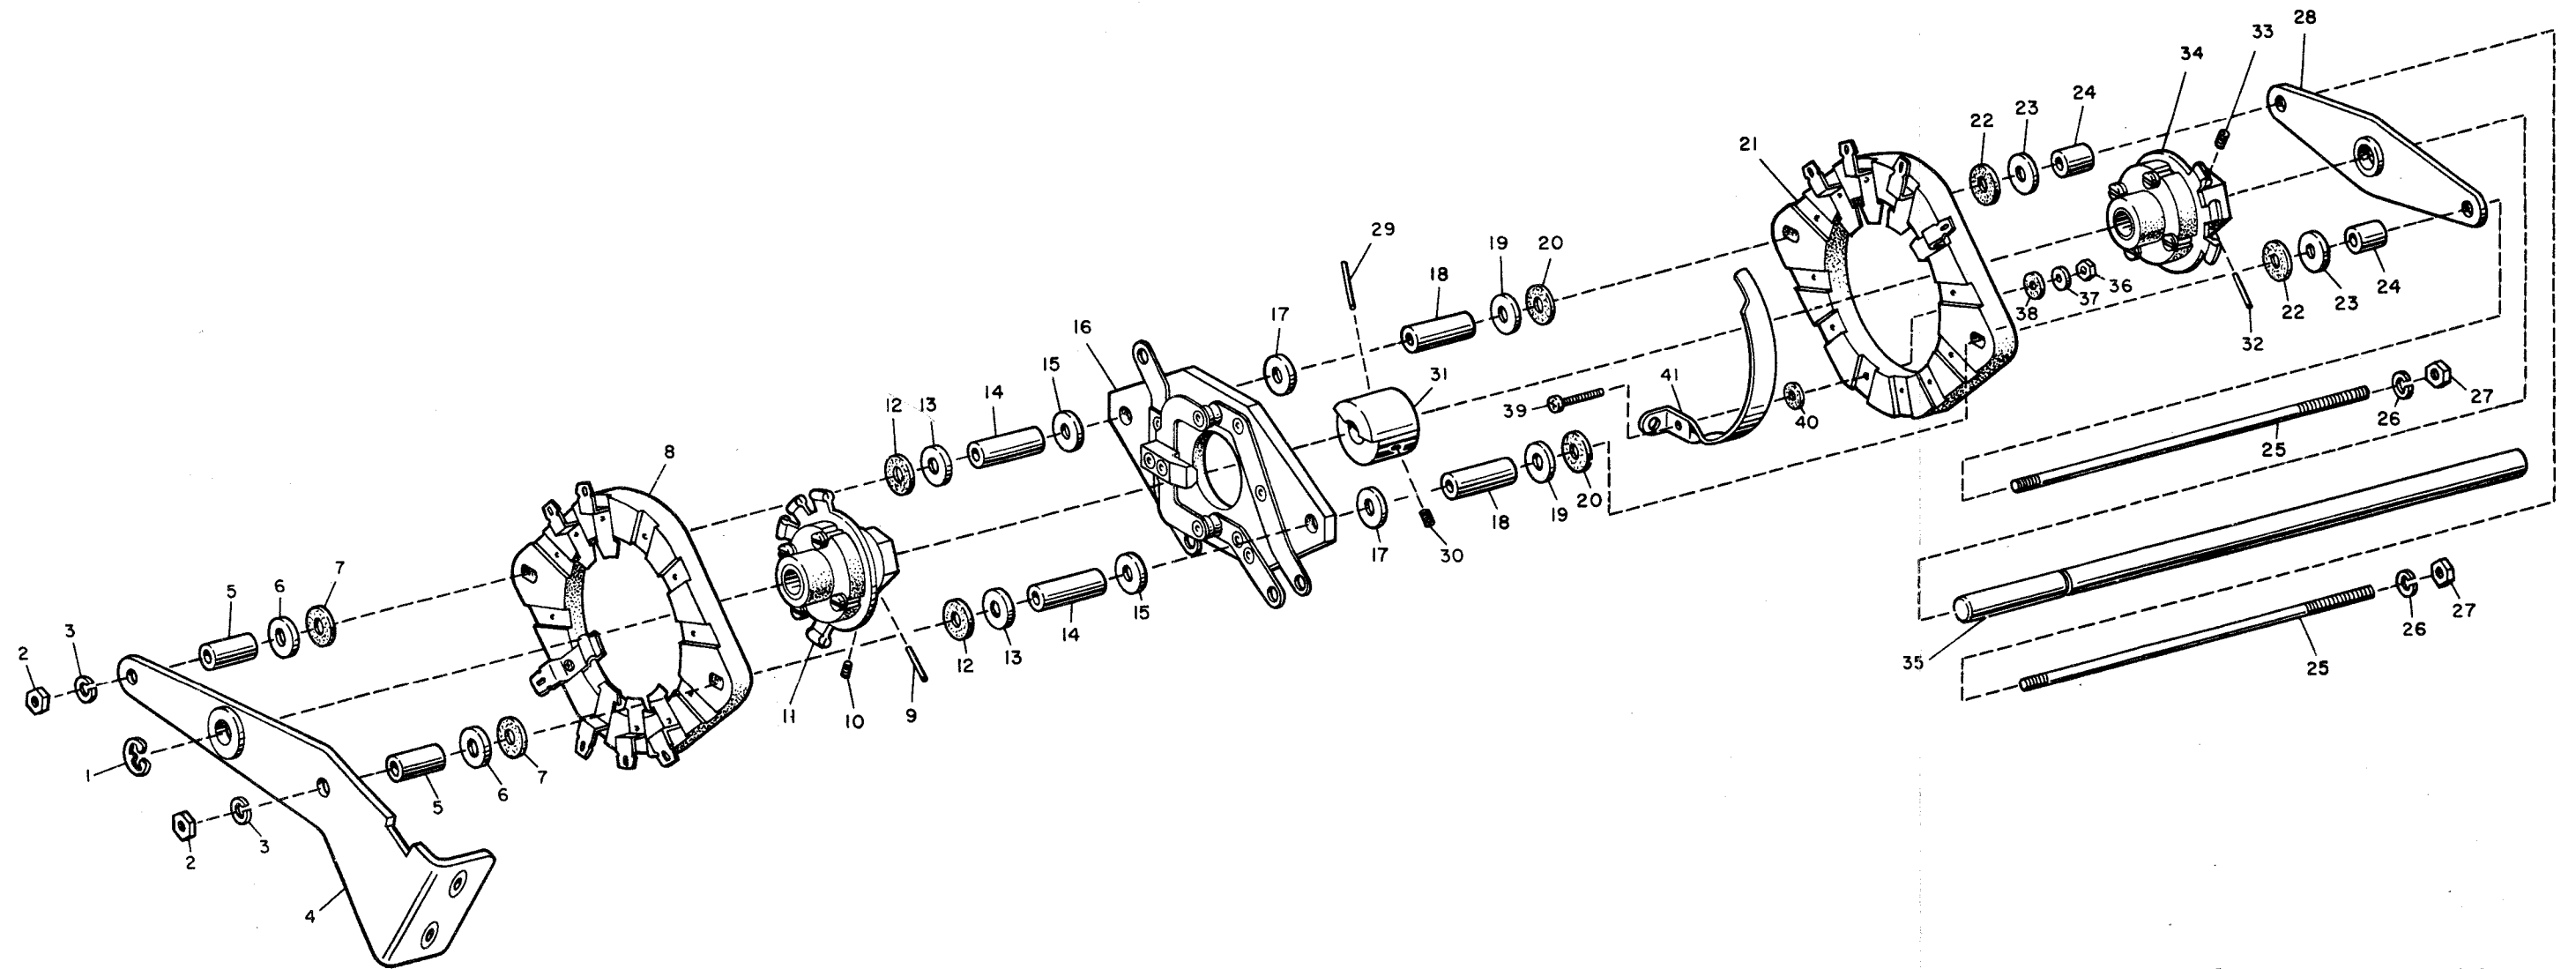

Figure 3-3. Radio Frequency Amplifier
(6) Loosen the three Bristo setscrews (8) in the detent wheel (9).
(7) Pry the detent arm (10), using a screwdriver, to clear the detent wheel (9) and slide detent wheel off of shaft.
(8) Remove two nuts (11) and lock washers (12) that mount the detent assembly (13) and back end of switch (S6).
(9) Lift the detent assembly (13) off shaft.
(10) Remove the two flathead screws (14) that mount switch assembly S6 (15) front bracket to the front top of the chassis.
(11) Carefully remove switch assembly (15) by pulling forward and rocking the assembly at the same time. Care should be taken not to bend the disconnected bus wires and strips.
c. BAND SWITCH ASSEMBLY. - To disassemble band switch assembly, refer to figure 3-3 and proceed as follows: Disassemble band switch in order of index numbers starting with number 1.